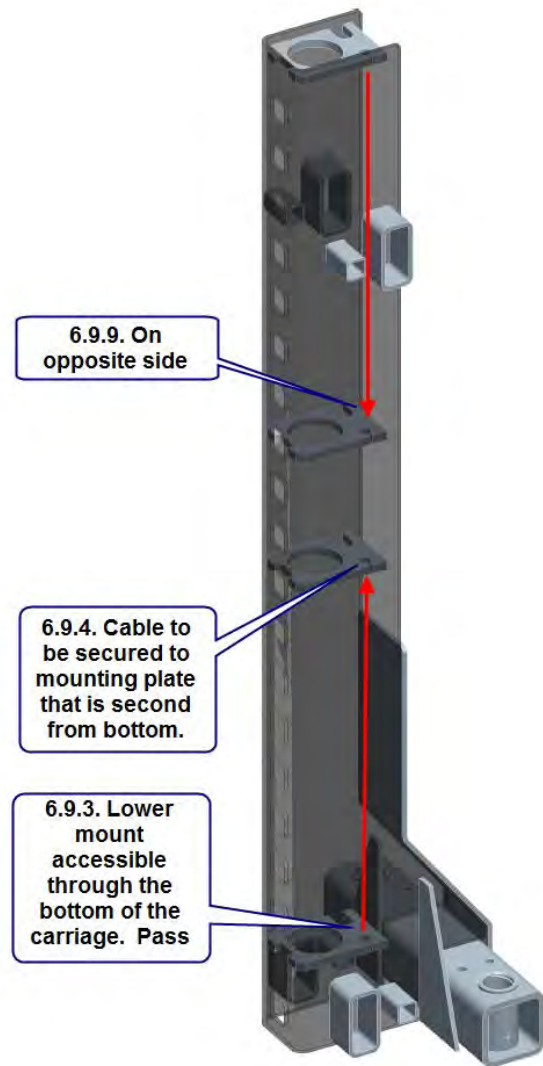

Figure 13: Cable Routing
4. Using the first cable, pass the short threaded stud, from the bottom of the carriage, through the $\frac{5}{8}$ " dia. hole in the lower mounting plate (**Figure 13**).
5. Feed the cable upwards until the stud comes through the top of the carriage. Thread the cable through the $\frac{5}{8}$ " dia. hole in the next mounting plate (**Figure 13**).
10. Insert the threaded stud into the 5/8" dia. hole in the mounting bracket second from the top of the carriage. (**Figure 13**).
11. Use a wrench to hold the top of the threaded stud to prevent it from rotating. Hand tighten (2) 1/2"-13 UNC nuts onto the threaded stud enough to remove all visible cable slack. Repeat steps 2 to 5 for the other equalizing cable.